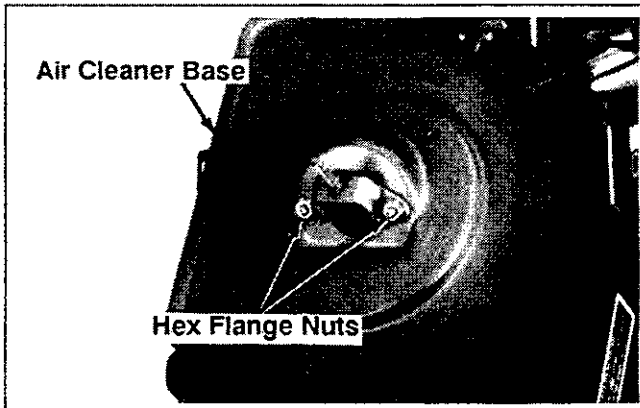

Figure 11-47. Installing Air Cleaner Base Plate.
2. Install the air cleaner base and gasket to the studs and torque the hex flange nuts to **9.9 N-m (88 lbf-in)**. See Figure 11-47.